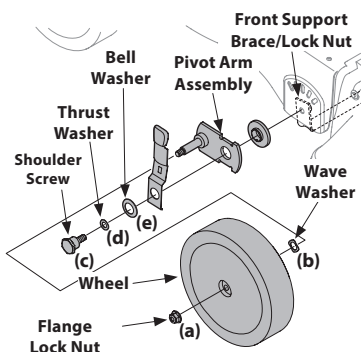

Figure 22
- Remove the flange lock nuts (a), front wheels, and wave washers (b) that attach to the pivot arm assemblies. See Figure 22.